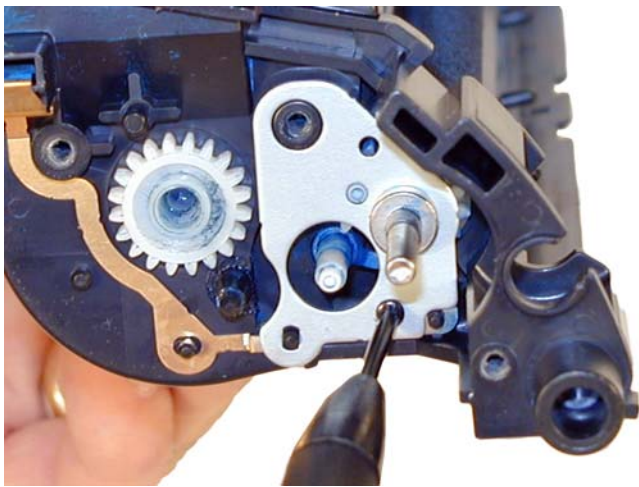

Figure 20
16) Re-install the feed roller contact plate and screw. See **Figure 20**